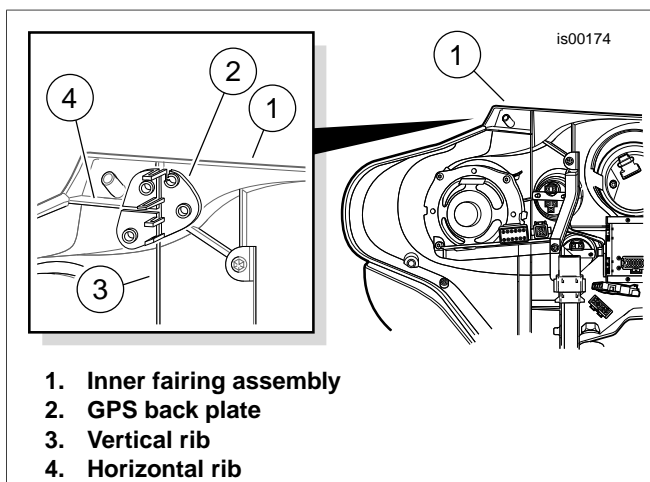
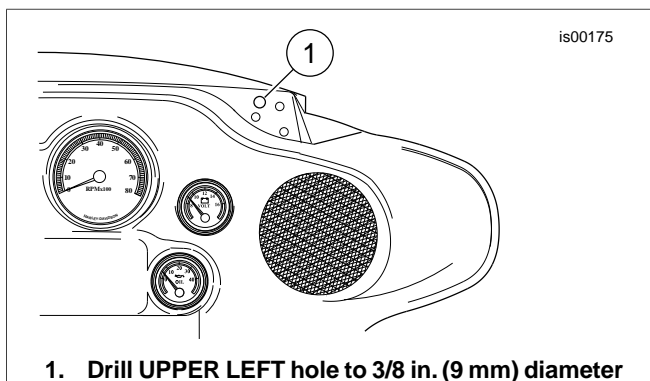

Figure 1. Position Back Plate for Drilling
Figure 2. Enlarge Upper Left Hole in Fairing
4. See Figure 1. Position the back plate (2) to the motorcycle inner fairing (1) as shown, fitting the T-slot in the back plate over the horizontal (4) and vertical (3) ribs at the top left corner of the inner fairing (as viewed from the front of the motorcycle).
5. Hold the back plate firmly in place, and use as a template to drill four (4) 7/32 in. (5.5 mm) diameter holes in the inner fairing.
6. Remove the back plate from the fairing and set it aside. From the rider's side of the fairing, drill out only the upper left hole (see Figure 2) to 3/8 in. (9 mm) diameter.